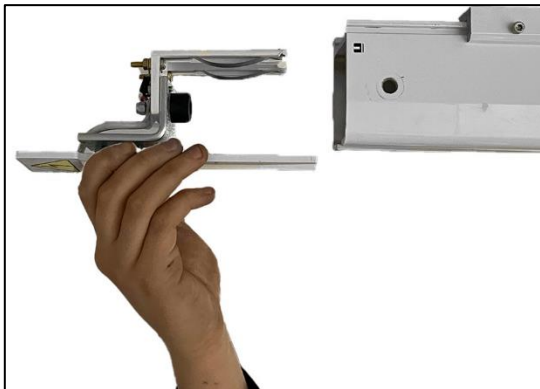

Figure 6-1
2. Align the charger with the rubber bumper facing inwards, towards the track. (See figure 6.1)